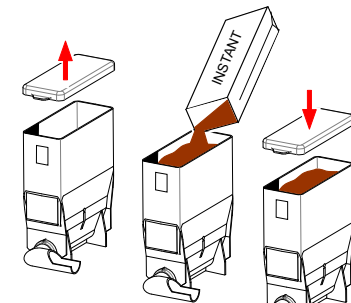

Fig. 26
2. Fill the canister(s) with the appropriate product (fig. 26).